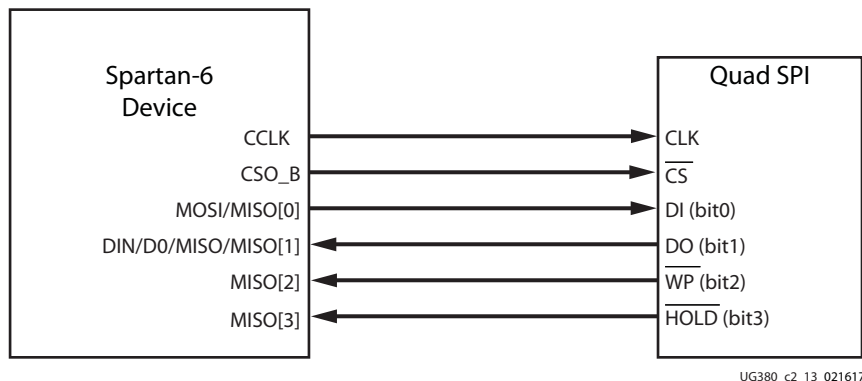

Figure 2-13: Master Serial Quad-Bit SPI Configuration
Figure 2-12 shows the connections for an SPI configuration with a data width of x1 or x2. These connections are the same because the x2 flash devices use the D pin as a dual purpose Data In/Out pin. Connections for the SPI x4 option are shown in Figure 2-13, page 44; two additional data pins provide a 4-bit data interface. Daisy-chained configuration mode is only available in SPI x1 mode. The FPGA pin connections to the SPI flash involved in the Master SPI mode are listed in Table 2-5.
Spartan-6 FPGAs also support x4 configuration with SPI flash in Master Serial Mode. See Figure 2-13.
Notes relevant to Figure 2-13:
1. The connection shown in Figure 2-13 uses an example quad SPI flash memory. Other SPI devices are supported. For a complete list, see the URL for the ISE software overview at the beginning of SPI Configuration Interface, page 40.